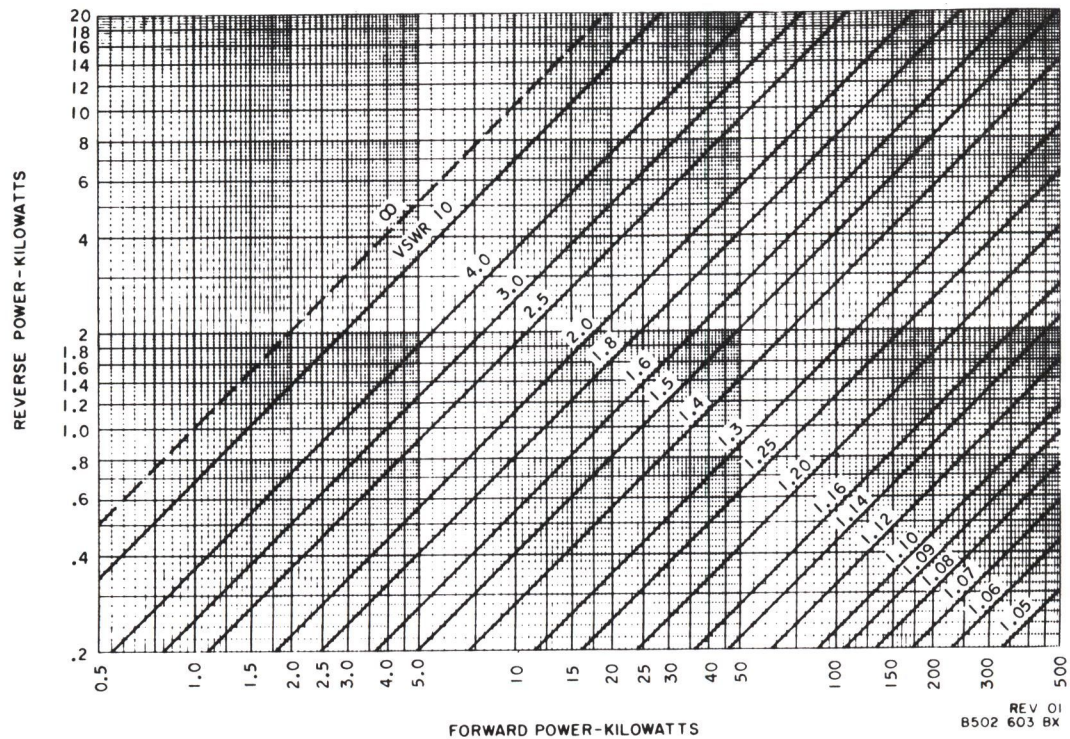

Figure 5-6. Power to VSWR Conversion Graph
- n. Refer to Figure 5-6. Check the forward and reflected power levels and determine the VSWR. If the VSWR exceed 2:1, check the antenna impedance.